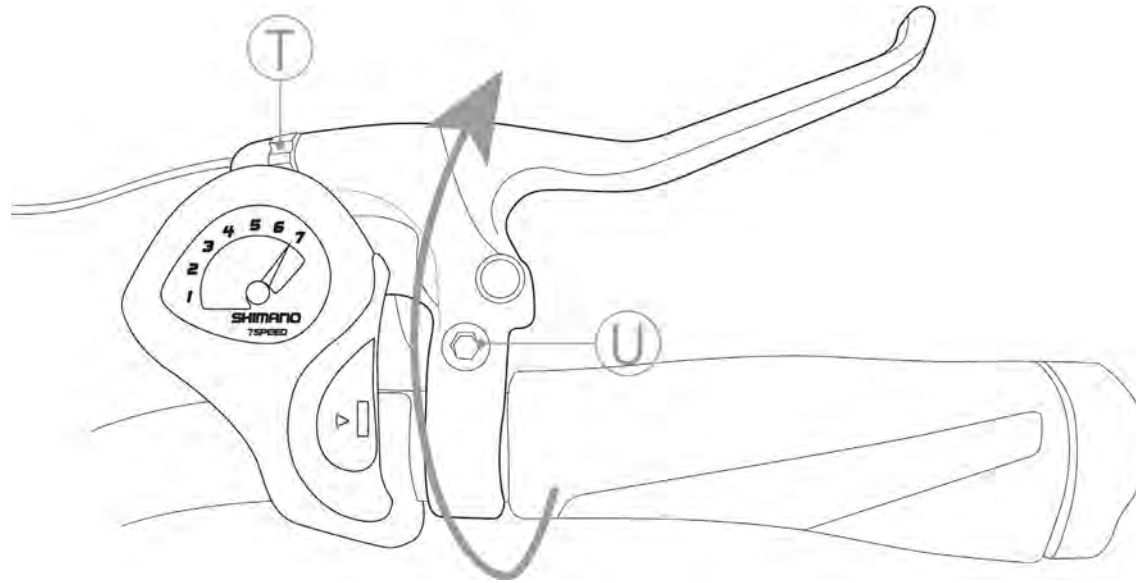

FIG. 15
- Rotate the brake lever using the clamping screw (Ref. U - Figure 15) until you reach a comfortable position of the hand;
- Vary the stroke of the brake lever by acting on the register (Ref. T - Figure 15).